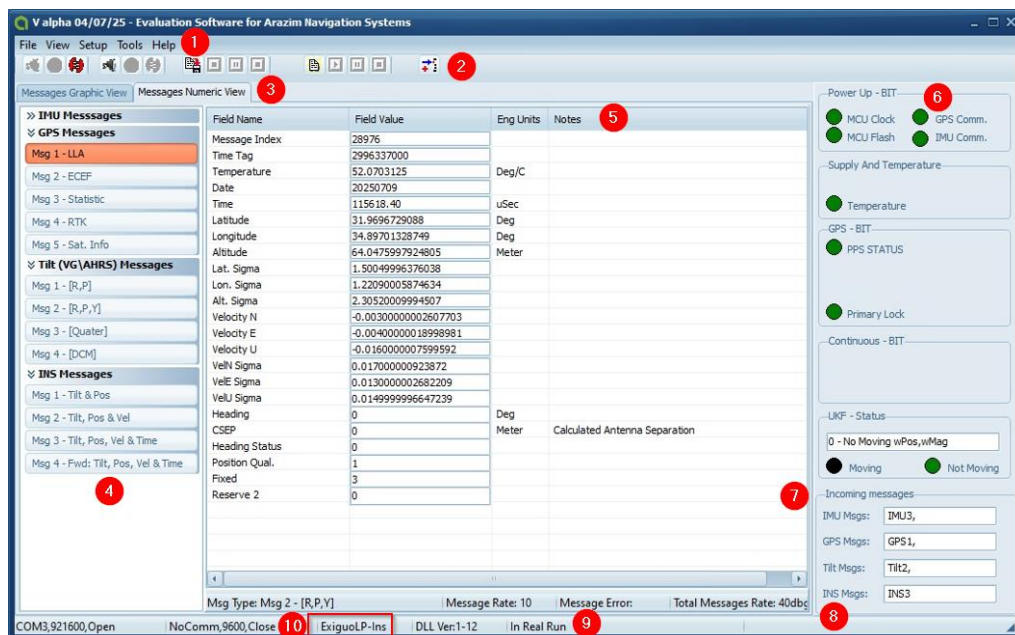

Figure 2. arazim Navigation Evaluation Software Home Screen
Table 1 lists the area names and functions in the arazim navigation evaluation software home screen. Figure 2 shows the location of each area referred to in Table 1.
1. The left portion of this view shows a list of messages available for a selected Navigation device (Figure 2, Reference 4)
2. The main portion of this view (Figure 2, Reference 5) shows:
- a. **Message Rate:** the number of times a selected message was received per second (Figure 2, Reference 4)
- b. **Message Error:** the number of times an error message was received per second (Figure 2, Reference 5)
- c. **Total Messages Rate:** the total number of user and system messages received per second (Figure 2, Reference 6).
The platform name (Figure 2, Reference 10) can be valid for Exiguo (EX200), ExiguoLP (EXLP200), and gINS (gX200), which all use the INS Dual Antenna algorithm.
5. The right portion of this view shows a panel with all BIT indicator information (Figure 2, Reference 6). These indicators are arranged in user-friendly groups